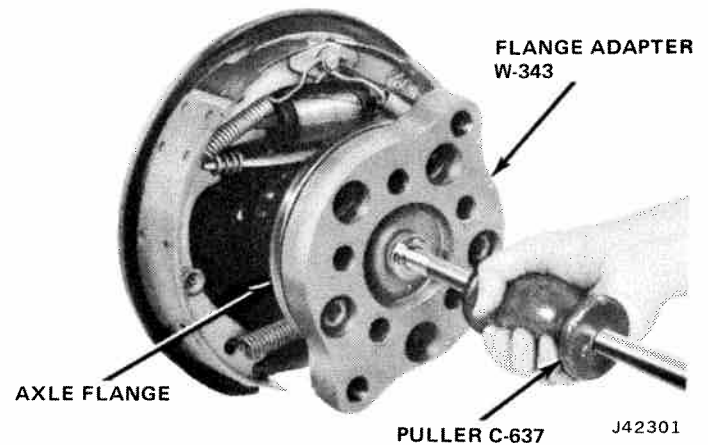

Fig. 10-14 Removing Flanged Axle Shaft
- (1) Jack up vehicle and remove wheels.
- (2) Remove brake drum spring locknuts and remove drum.
- (3) Remove axle shaft flange cup plug by piercing center with a sharp tool and prying out.
- (4) Using access hole in axle shaft flange, remove nuts attaching backing plate and retainer to axle tube flange.
- (5) Attach Axle Shaft Adapter Tool W-343 and Slide Hammer Handle C-637 to axle shaft flange and remove axle shaft (fig. 10-14).